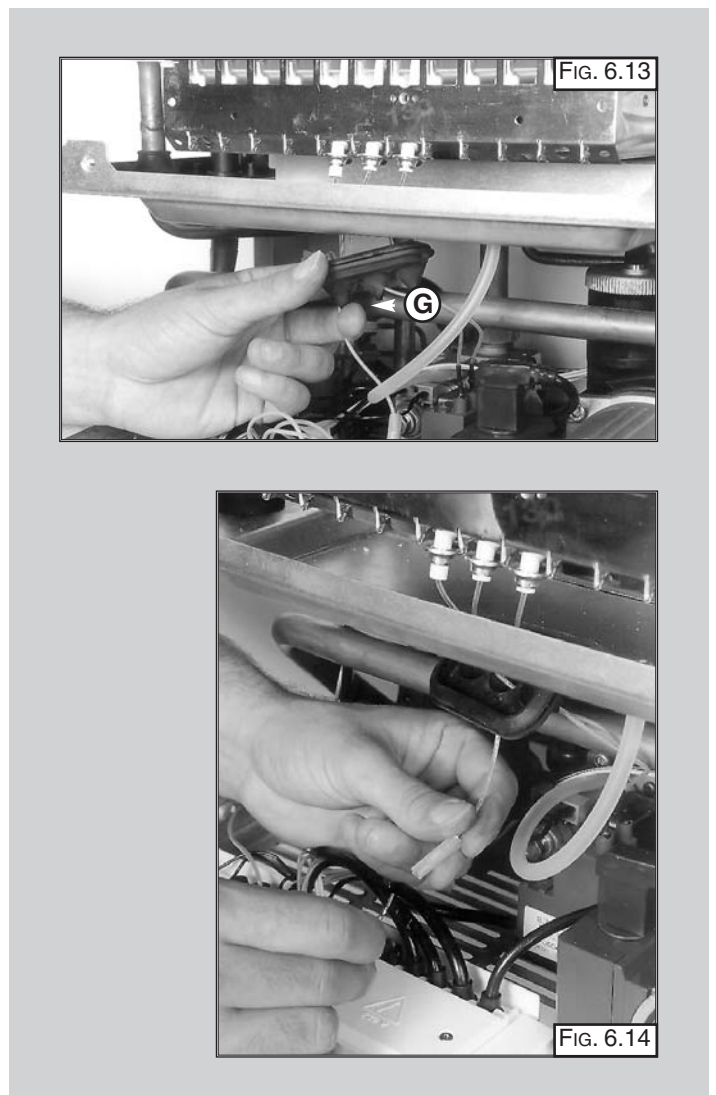

FIG. 6.15
3. Remove screw "H" (FIG. 6.15);